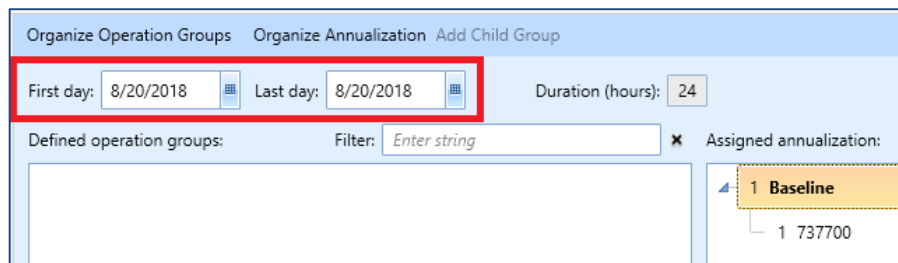

Figure 31. Create Annualization Wizard – Build Annualization
5. Make sure that the First day and Last day are both set to the default operation date, and that the *Duration* is 24 hours (Figure 31). If the two dates are different, it means that the operation time of one of the aircraft operations were not assigned correctly.